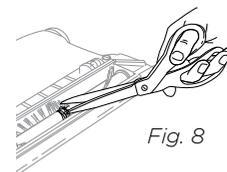

Fig. 8
- 4 Using scissors, carefully cut along the raised guide on the brushroll to cut away any hair, string, or fibres. Avoid damaging or cutting the bristles. **(Fig. 8)**